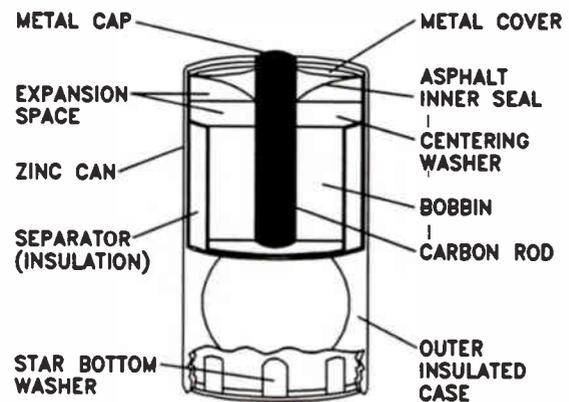

Figure 1. Principal parts of a typical carbon-zinc dry cell.
**Dry Cells.** Dry cells are not really "dry." They are called dry cells because their chemical mixture is in the form of a paste rather than a liquid. The construction of an ordinary carbon and zinc dry cell battery is shown in Fig.1. Carbon-zinc cells are widely used for general-purpose batteries.